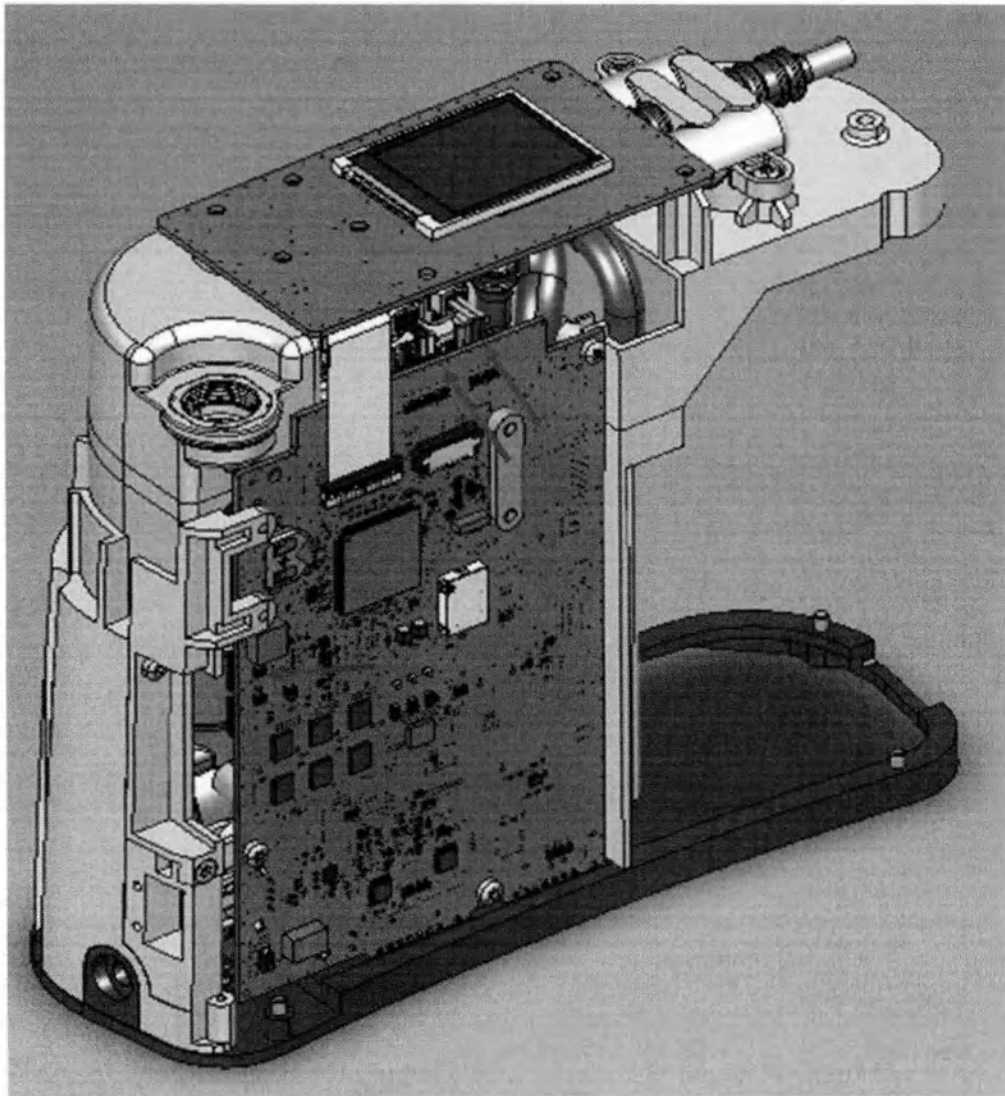

Figure 20: Unplug the Product Manifold's, fan, feed waste manifold connectors and lift the screen card from the Motherboard
2. Pull the connector of the Product Manifold, Feedwaste Manifold and Fan from the Motherboard as shown in Figure 20.